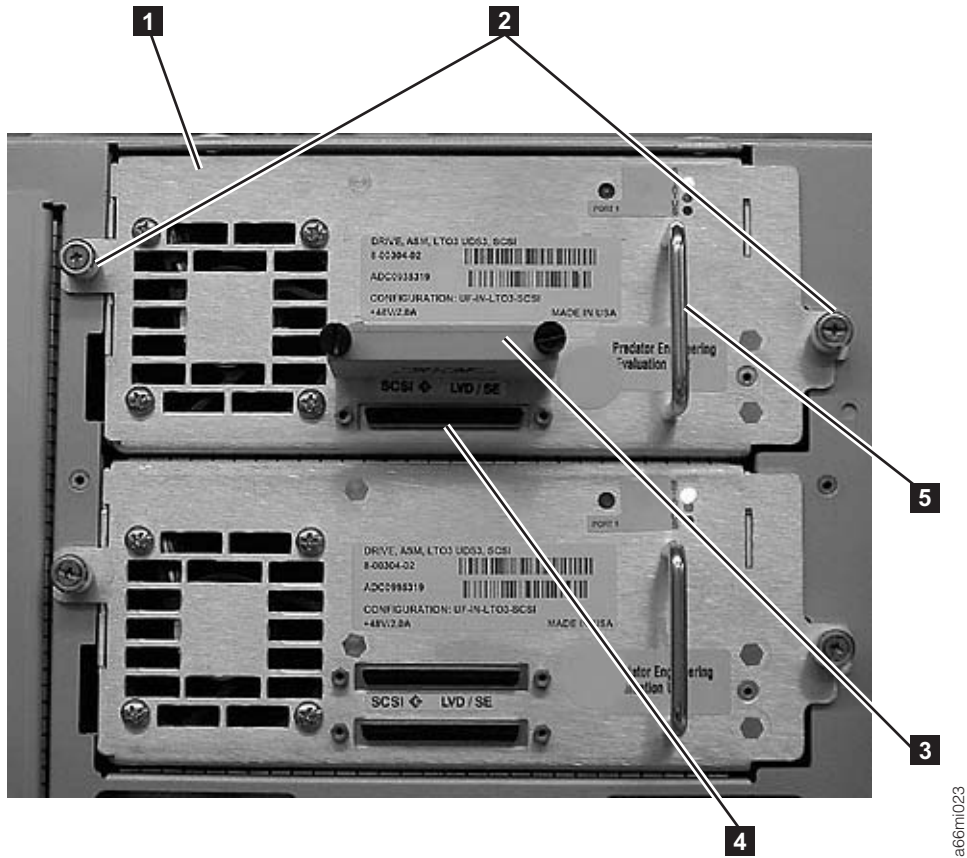

Figure 4-7. SCSI Drive Sled (detail)
1. Loosen the two thumb screws (**2** in Figure 4-7) that hold the drive sled in place by turning them counterclockwise.
2. To remove the drive sled, grasp the handle (**5** in Figure 4-7) and slowly pull it toward you, while supporting the drive sled from underneath.